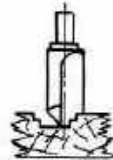

Fig. 728. DOUBLE RABBIT CUTTER
- Fig.728 Double Rabbet Cutters.